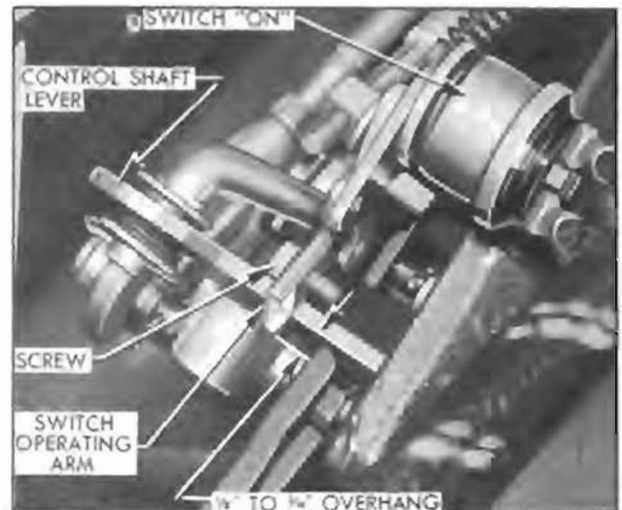

Figure 11-4—Position of Switch Operating Arm in Reverse
3. Loosen hex head cap screw on switch operating arm and adjust length of arm until end of arm extends  $\frac{1}{8}$ " to  $\frac{3}{16}$ " beyond front edge of control shaft lower lever. See figure 11-4. Tighten switch arm screw securely.